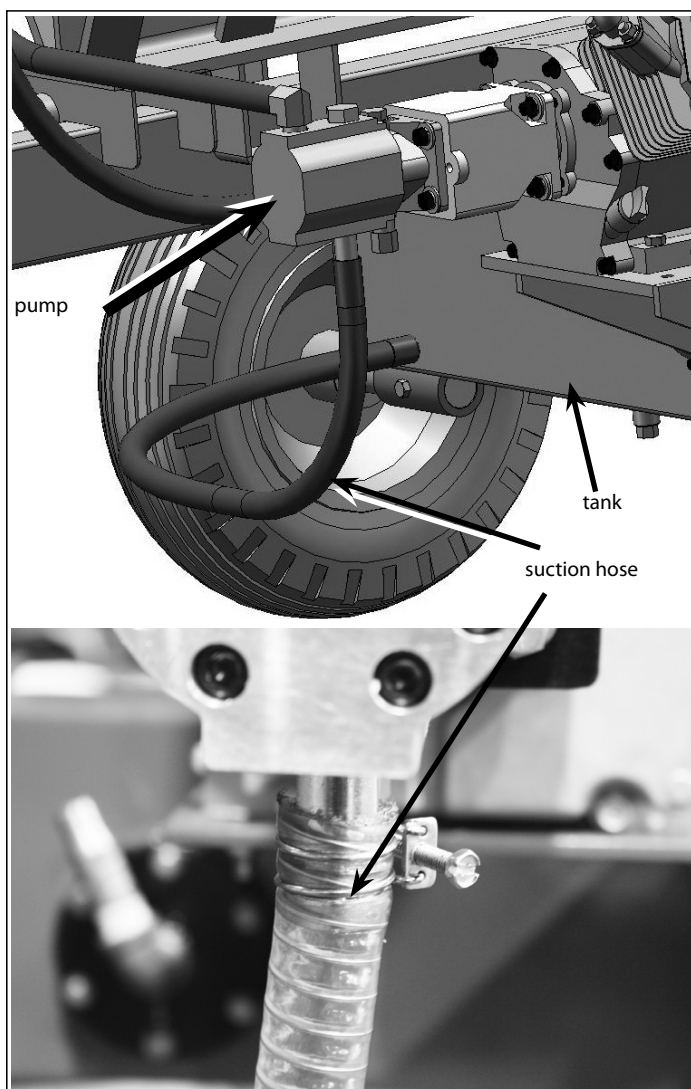

Figure 13
17. Attach the clear suction hose to the suction port on the tank and to the intake port on the pump. Tighten securely using two hose clamps. **SEE FIGURE 13.**
19. Attach the high pressure hose to the high pressure port on the valve and to the outlet port on the pump. **SEE FIGURE 13 AND 14.** *Tip: Jiggle the fitting while tightening to ensure proper seating of the fitting.*